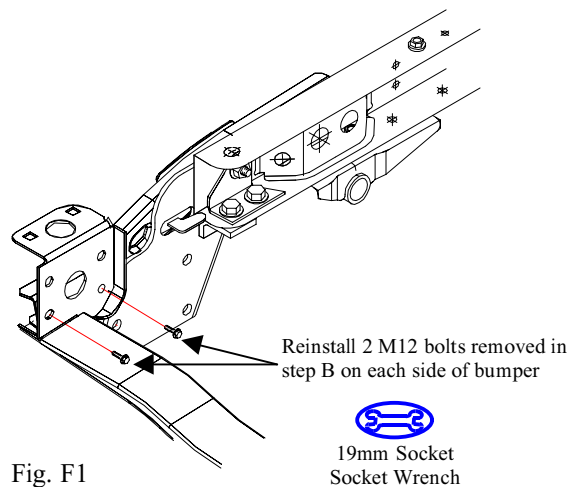

Fig. F1
-  1. Reinstall bumper to bumper mounting brackets using the four (4) M12 bolts removed in Step B-2. Bolts will thread into the existing weld nuts on bumper mounting bracket. (Fig. F1)